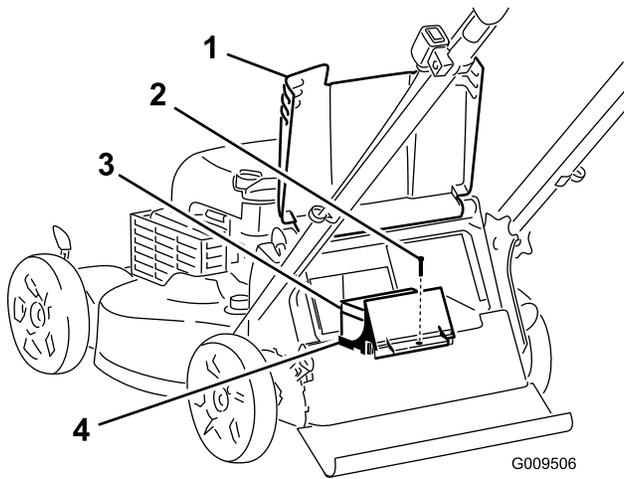
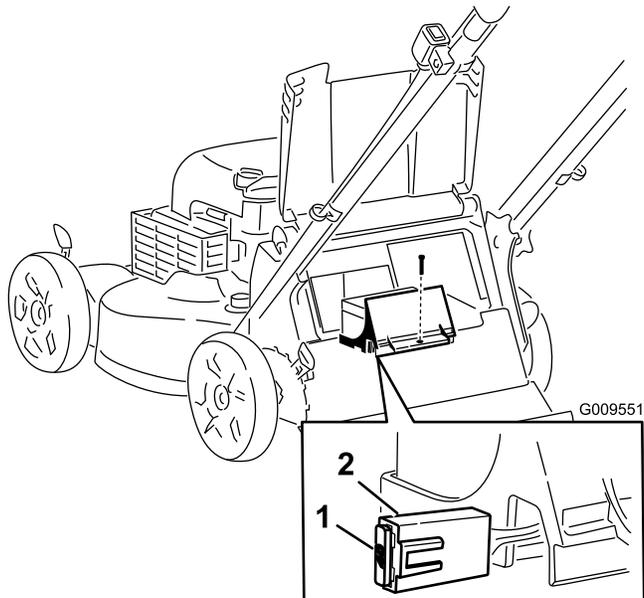

Figure 5
Figure 6
1. Raise the rear deflector and locate the battery compartment (Figure 5).
2. Remove the screw that secures the battery compartment, pull out the battery, and locate the fuse (Figure 5 and Figure 6).
3. Insert the fuse into the fuse holder (Figure 6).